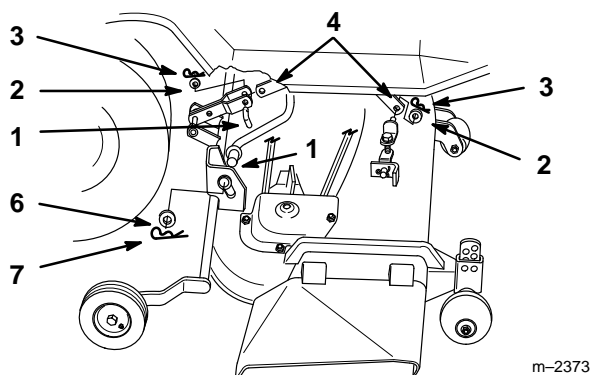

Figure 15
4. Remove hairpin cotter, washer and link pin from rear link and remove from attachment lift (Fig. 15).
5. Remove hairpin cotter and washer from front adjustable link(s) and remove from front lift arm (Fig. 15).
6. Remove hairpin cotters and washers from rear lift arms (Fig. 15).
7. Slide deck right, off rear lift arms (Fig. 15).